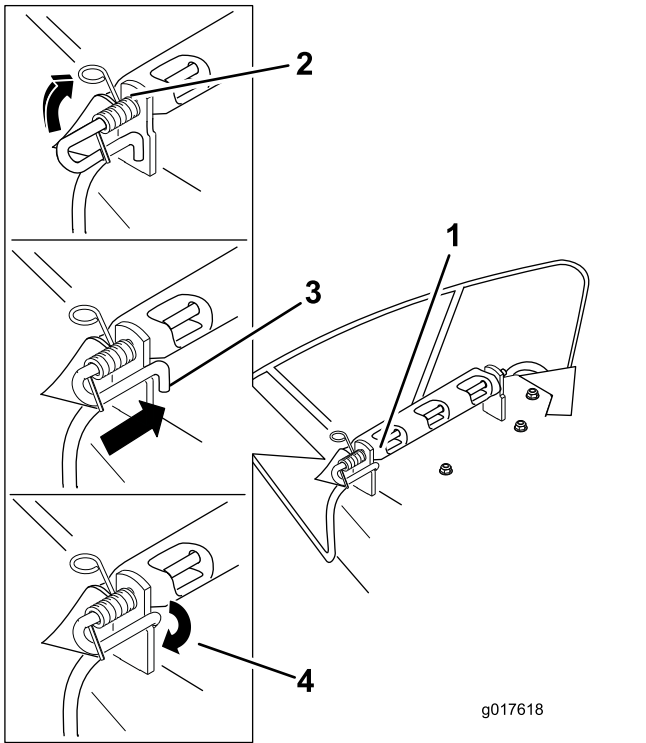

Figure 61
- Lift the loop end of the spring and place it into the notch on the deflector bracket (Figure 61).
- Secure the rod and spring assembly by twisting it so the short end of the rod can be placed behind the front bracket welded to the deck (Figure 61).